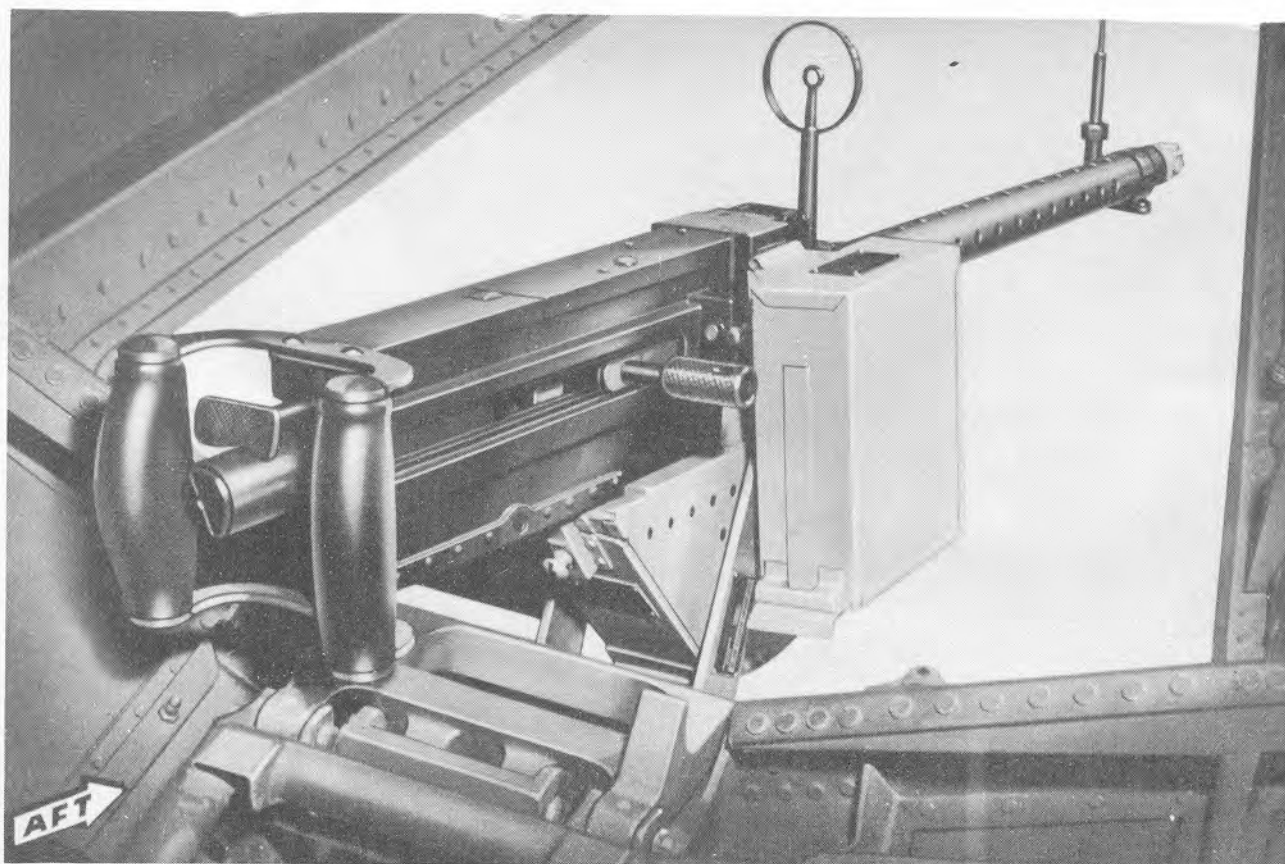

Figure 57—Tunnel Gun—Ready
(1) To place the gun in firing position: (See figure 57.)